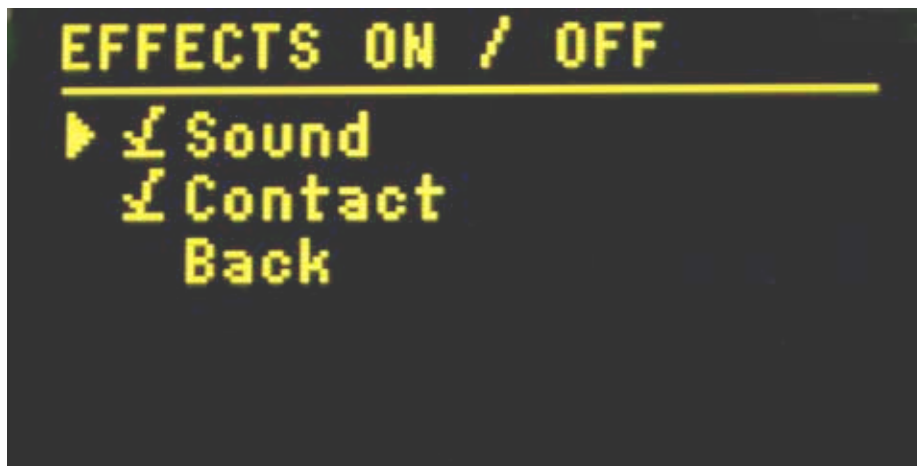

Figure 12. EFFECTS ON / OFF Screen
To activate the voice alert, select “Effect Options” from the MM, then select “Effects On/Off” from the “EFFECT OPTIONS” screen to get the “EFFECTS ON / OFF” screen seen in Figure 12:
2. push down the ball to insert a check mark to the left of “**Sound**” as seen in Figure 12.
To activate the Dry Contacts, select “Effect Options” from the MM, then select “Effects On/Off” from the “EFFECT OPTIONS” screen to get to the “EFFECTS ON / OFF” screen seen in Figure 12. Then,
2. push down the ball to insert a check mark to the left of **“Contact”** as seen in Figure 12.